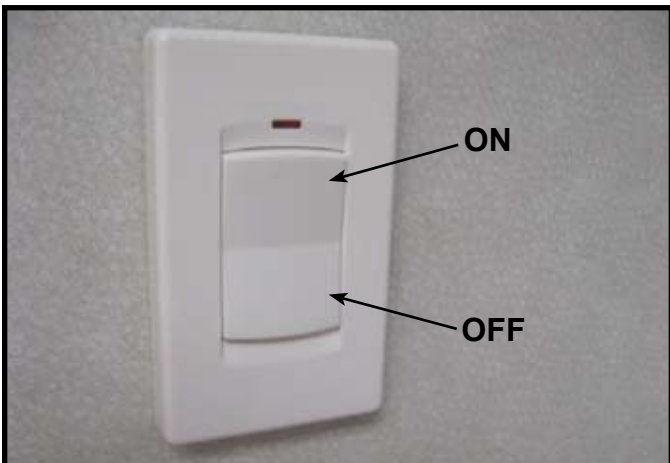

Figure 4. RC100 Function
5. Place the cover back on the wall switch and press the top button. The red light illuminates if the batteries were properly installed. See Figure 4.